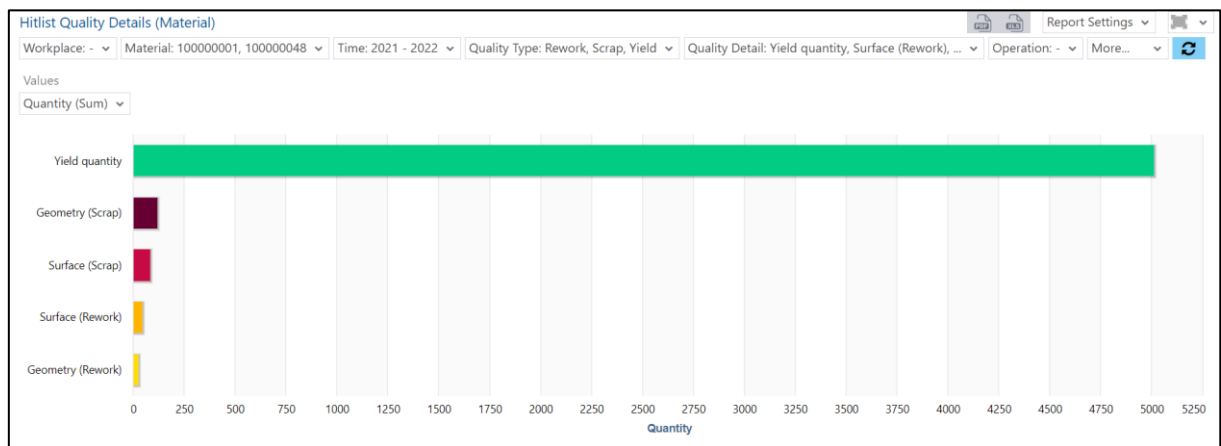

Fig. 123: Hit list of quality details (material) as a bar chart
- Hit list quality details (material) as a bar chart (fig. 123):